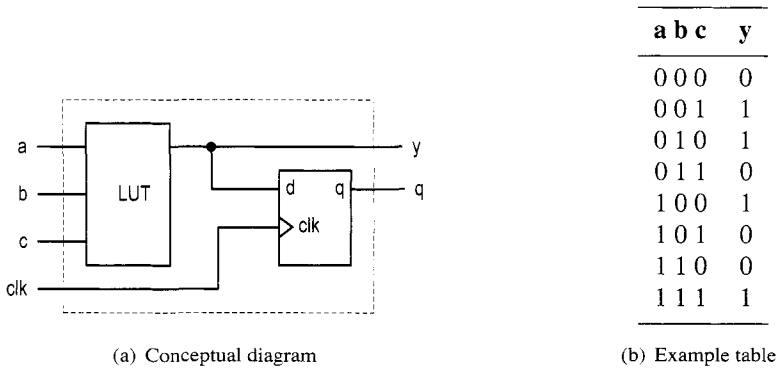

Figure 2.2 Three-input LUT-based logic cell.
LUT-based logic cell A logic cell usually contains a small configurable combinational circuit with a D-type flip-flop (D FF). The most common method to implement a configurable combinational circuit is a *look-up table* (LUT). An n -input LUT can be considered as a small 2^n -by-1 memory. By properly writing the memory content, we can use the LUT to implement any n -input combinational function. The conceptual diagram of a three-input LUT-based logic cell is shown in Figure 2.2(a). An example of three-input LUT implementation of $a \oplus b \oplus c$ is shown in Figure 2.2(b). Note that the output of the LUT
Logic cell, slice, and CLB The most basic element of the Spartan-3 device is a *logic cell* (LC), which contains a four-input LUT and a D FF, similar to that in Figure 2.2. In addition, a logic cell contains a carry circuit, which is used to implement arithmetic functions, and a multiplexing circuit, which is used to implement wide multiplexers. The LUT can also be configured as a 16-by-1 static random access memory (SRAM) or a 16-bit shift register.